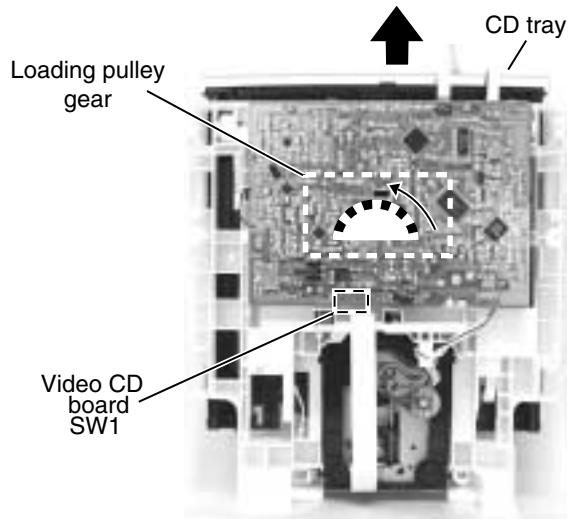

Fig.1
■Removing the CD tray (See Fig.1 to 3)
■ Removing the R/P head. (Fig.1 to 3)
■ Removing the P.B. head. (Fig.1 to 3)